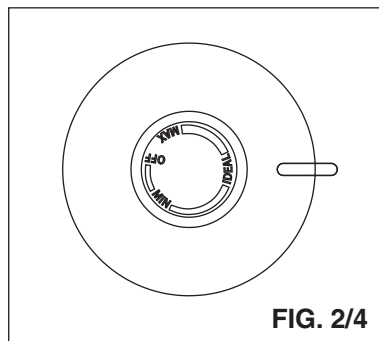

FIG. 2/4
- Equal or below 51.7°C (125° F) for NTI COMPACT 2.5, NTI COMPACT 4 and NTI COMPACT 6 (See fig. 2/4).